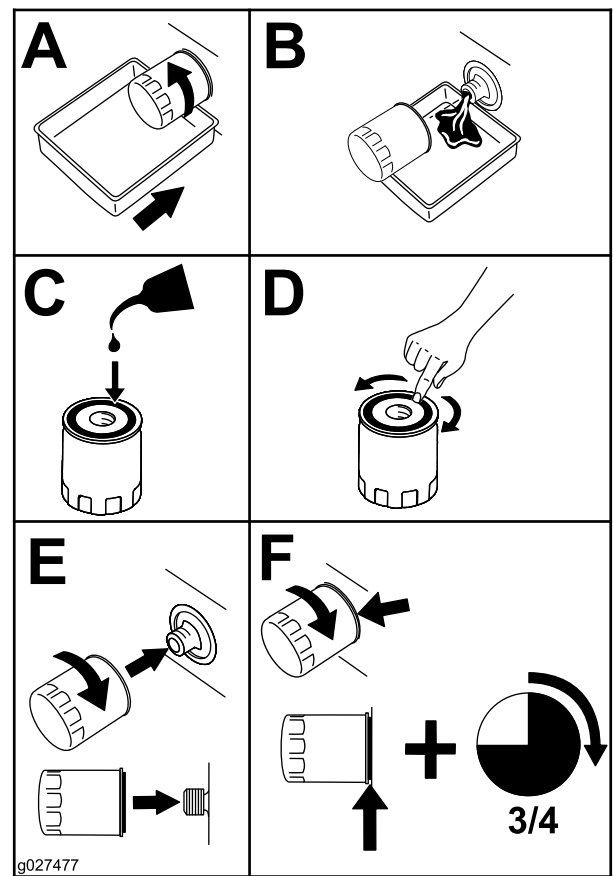

Figure 45
5. Change the engine-oil filter (Figure 45).